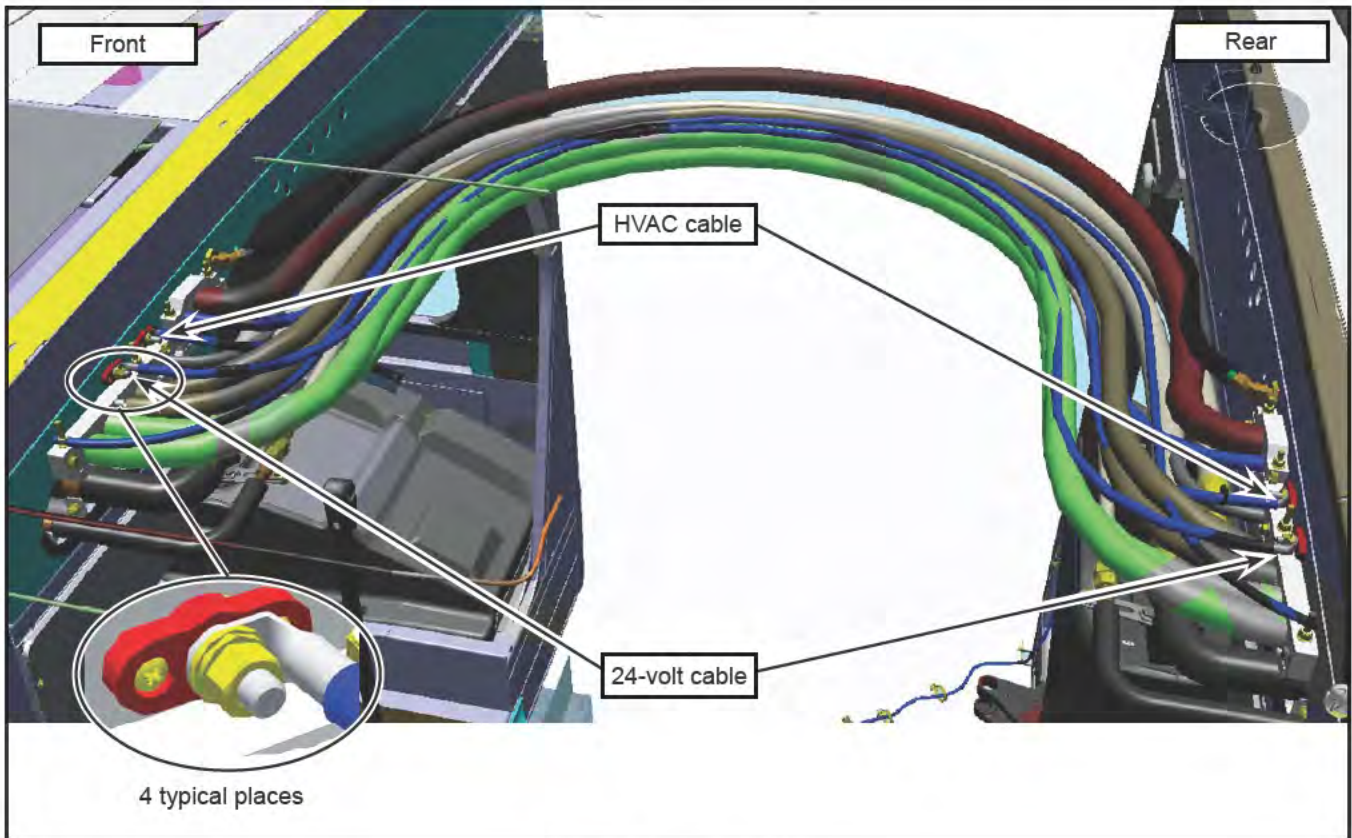

Figure 2 - Remove Cables
- 1.2. Push back the red protective boots and remove the 24-volt and HVAC power cables. Do not cut the cable ties holding the coolant hoses together. See Figures 2 and 3 (some parts removed for clarity).